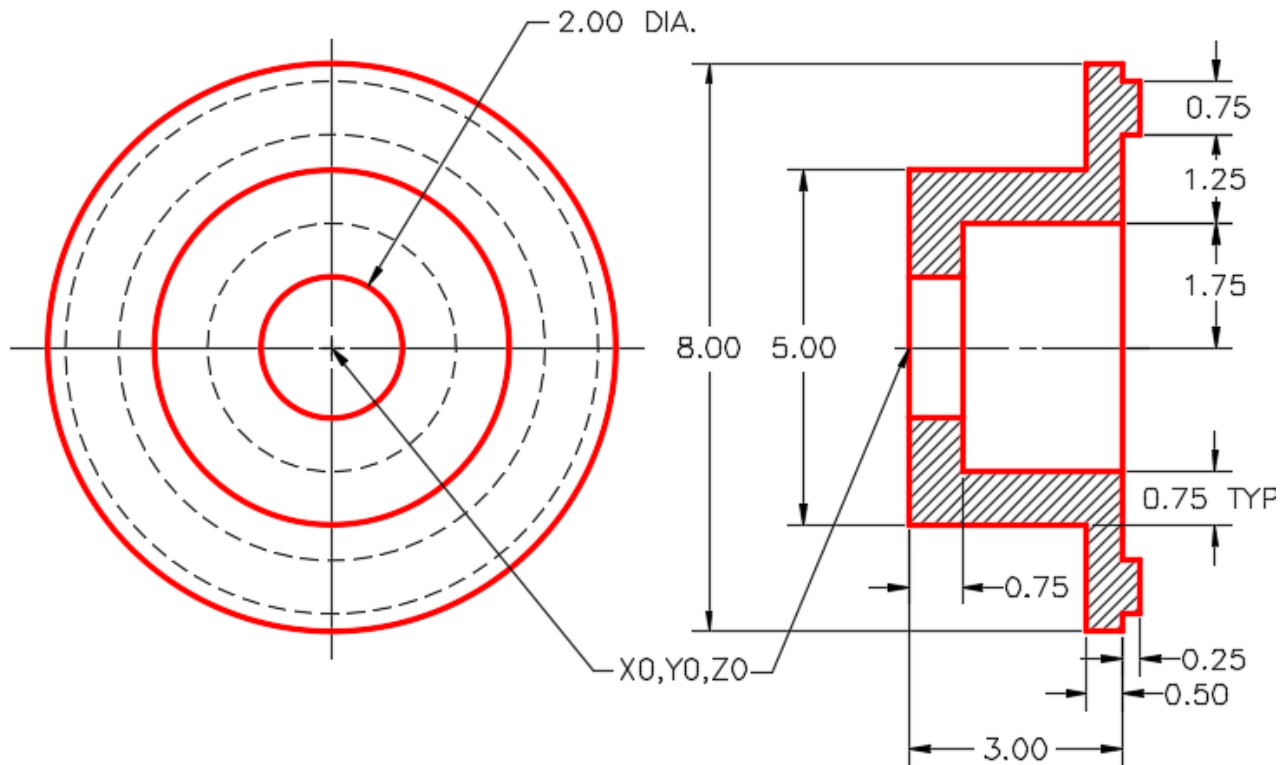

Figure Step 2
Step 2 Save and name the drawing: AutoCAD 3D Workalong 18-3. (Figure Step 2)